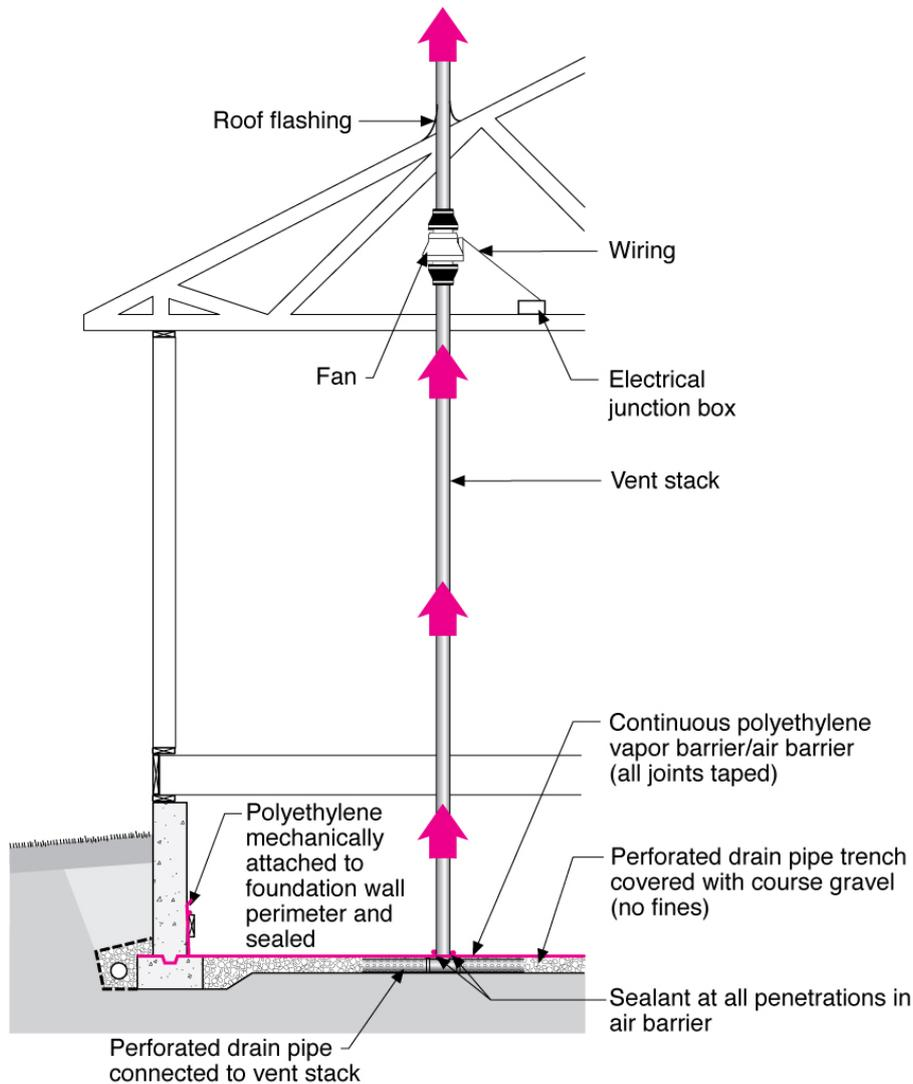

Figure 2. Radon fan - crawlspace construction (image courtesy of BSC).
2. Lay at least 5' of min. 3" diameter horizontal perforated pipe on the soil at the location where you will run the vertical ventilation pipe and connect it to either side of a vertical "T". See Figure 2.